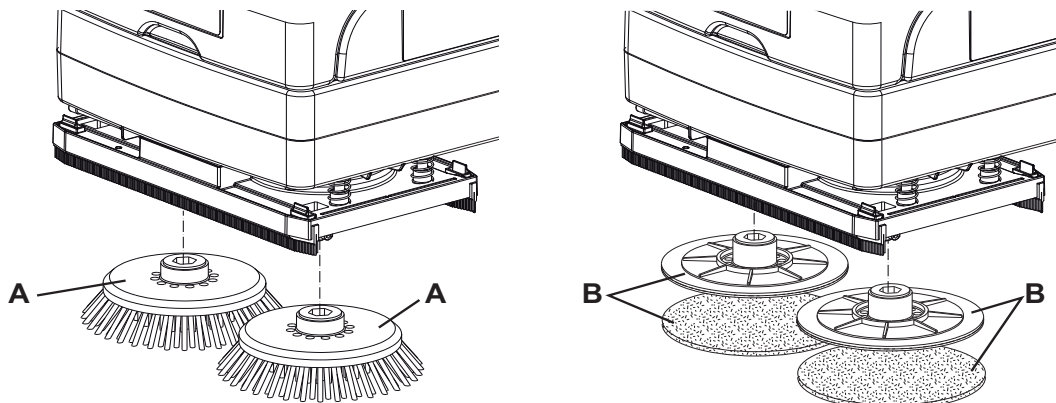

Figure 3
The machine is supplied with two brushes (A, Fig. 3) installed. According to the type of floor to be cleaned, it is possible to replace the brushes (A) with the pad-holders with pads (B).
1. Lift the machine by prying the handlebar (2).
2. Install the brushes (A, Fig. 3), or the pad-holders with pads (B), in the 2 hubs of the deck (9).
3. Lower the machine by using the handlebar (2).